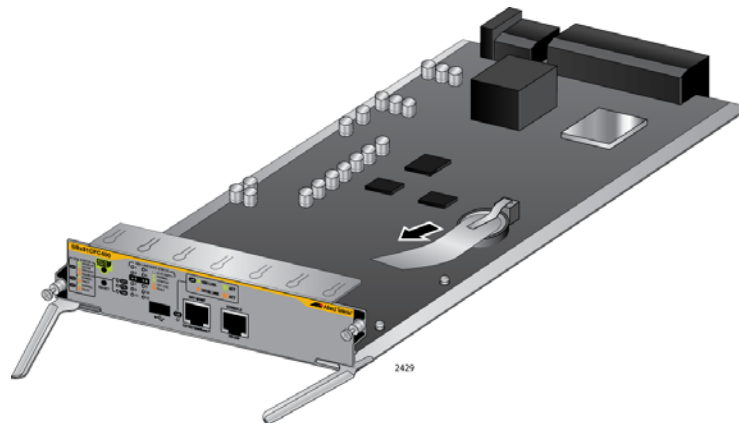

Figure 65. Removing the Battery Insulator
5. Remove the battery insulator tab on the controller card by sliding it out from between the battery and battery clip, as shown in Figure 65.